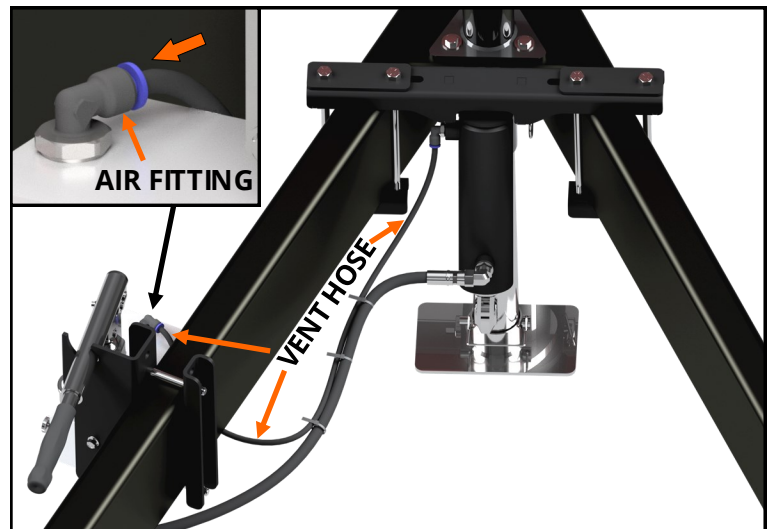

FIGURE E1: View looking at inside of the A-frame.
3. **Complete vent hose installation.** Pull the vent hose up between the frame and the hydraulic pump unit. Push in on the blue fitting to remove the plug from the air hose fitting on the top of the hydraulic pump. Cut the vent hose to length and insert the cut end into the air fitting and press in firmly, **see Figure E1**.